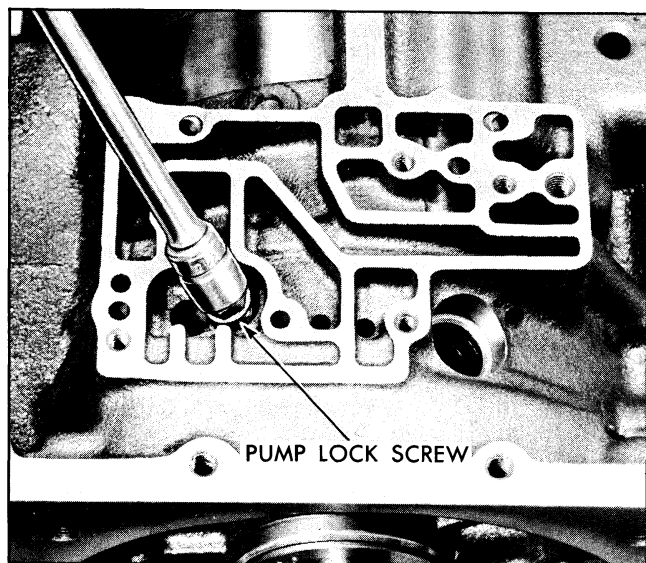

Fig. 7D-54 Removing Front Pump Locking Screw
3. Remove three pump to case support washer head attaching screws (Fig. 7D-55).